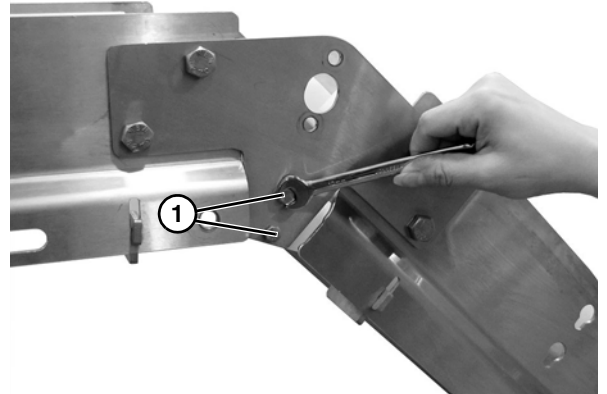
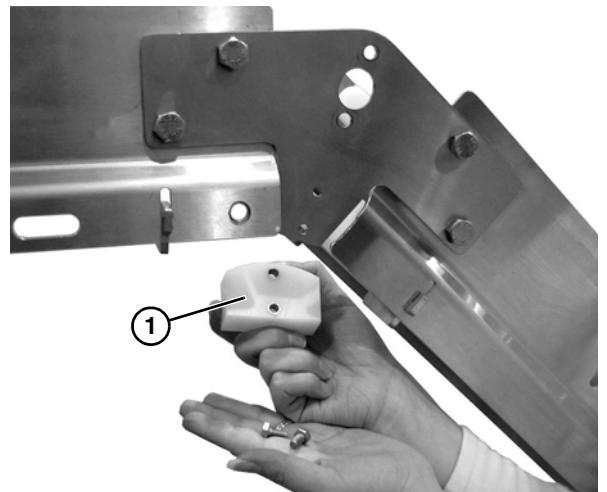

Figure 62
Figure 63
- Remove two cap screws (**Figure 62, item 1**) and inner belt return guide (**Figure 63, item 1**). Repeat on opposite side of the conveyor.